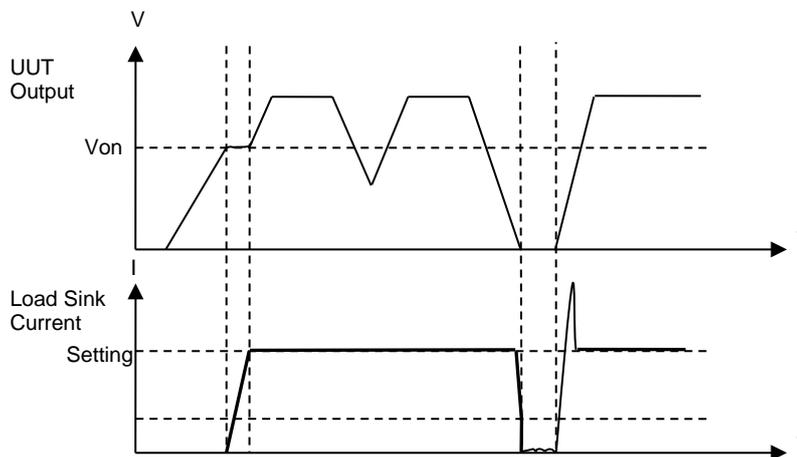

Figure 3-21 Von Point is not set to 0V without Protection
- (4) When it is “LOAD ON”, Von Point is not set to 0V and Von Protection is disabled, switch the SW to on after it was turned off for a period of time and then turn it off again. The current loading still goes on when there is no power, and overshoot may occur once the SW is turned off with any power input as Figure 3-21 shows. It may damage the UUT and the DC Load in this case.